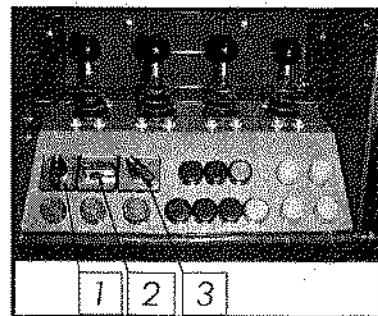

Figure 7-7. Selector switches
7.4.2 Selector switches (figure 7-7)